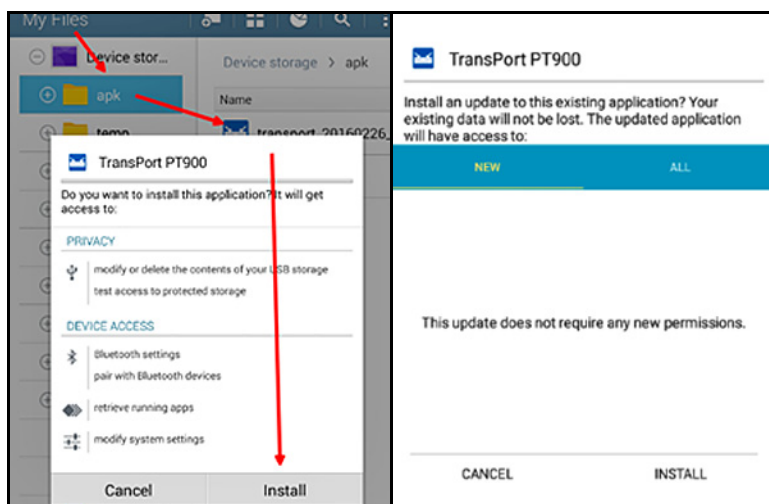

Figure 57: Initial (Left) and Update (Right) Installation Screens
- Click on the APK file, and the *Android* operating system will verify the checksum and signature for the file. Depending on whether this is an initial installation or an update installation, you will see one of the screens shown in *Figure 57* below. Click **INSTALL** to begin the installation.